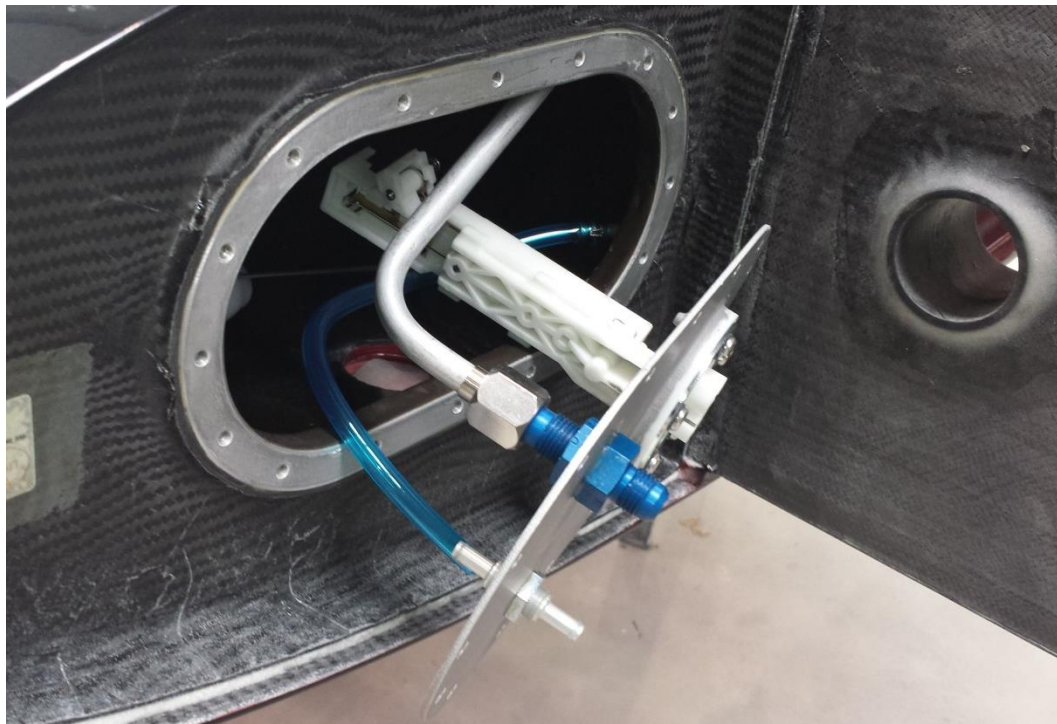

Figure 4: Assembly of tank plate (LH) Note: Wing is upside down.
5. Reinstall the tank cover (P/N XA42-2820-151/-154), install the vent hose from inside the tank (P/N XA42-2820-131/-132) on the tank cover fitting (SCN-PK-6) and secure the connection with safety wire (See Figure 4).